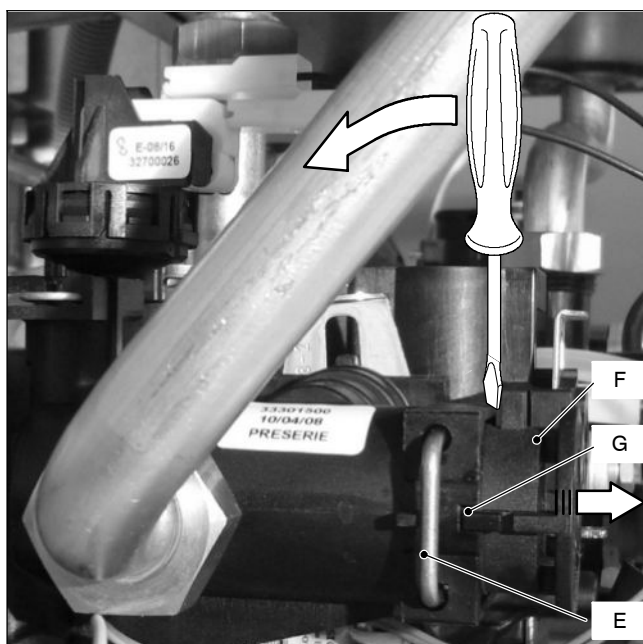

Fig. 8.5
- 4 Remove the fixing spring *E* (Fig. 8.5)
- 5 Remove the tree way diverter valve *F* by levering with a screwdriver in as shown in Fig. 8.5.
**Attention.** When reassembling the tree way diverter valve be sure that the tree way diverter is correctly oriented by matching the reference *G* with the notch of the water group Fig. 8.5